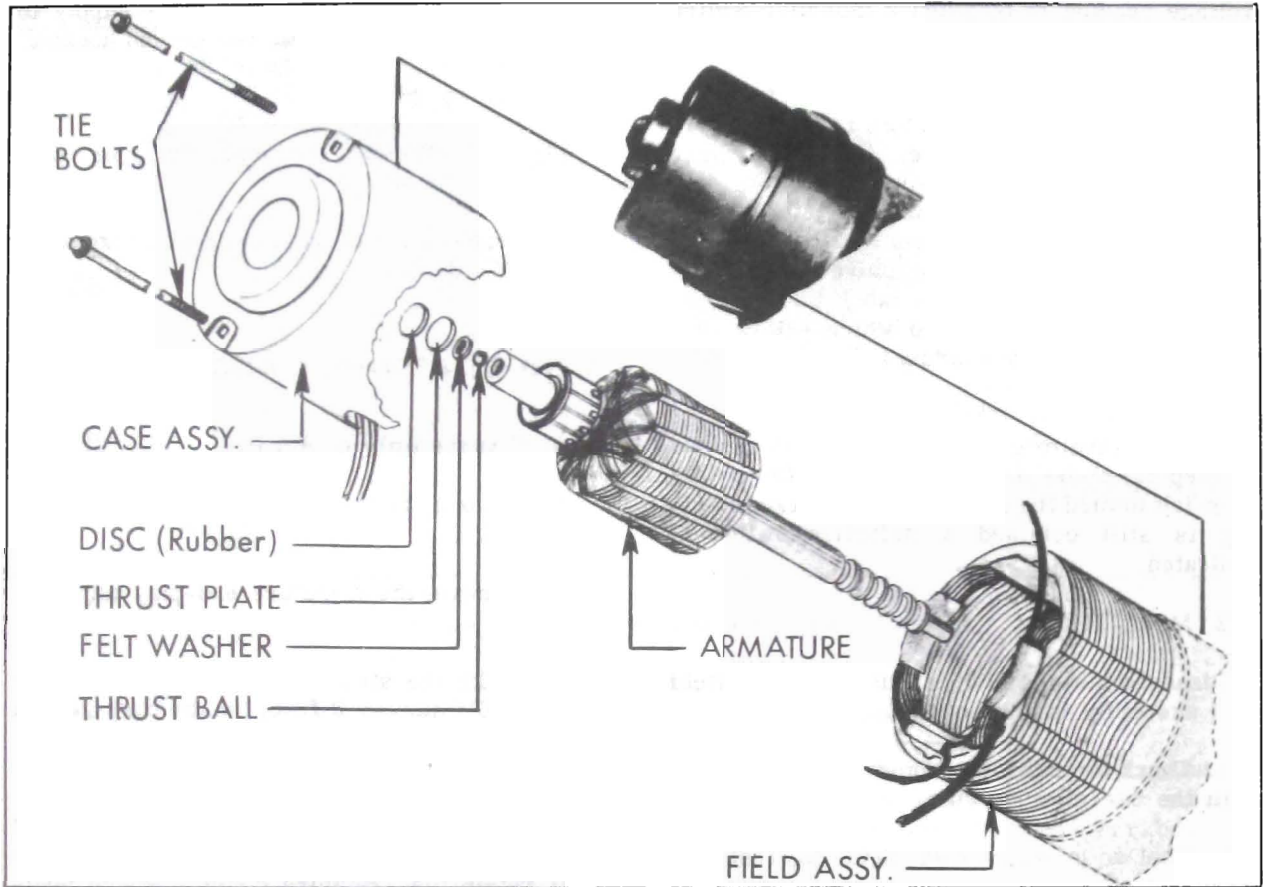

Figure 1-24—Motor Disassembly
1. Remove the two motor tie bolts. See Figure 1-24.
7. Remove the felt washer, thrust plate, and rubber thrust disc from the case assembly bearing as required. Refer to Figure 1-24.
2. Assemble the rubber thrust disc, steel thrust plate and felt washer in the order indicated. Refer to Figure 1-24.